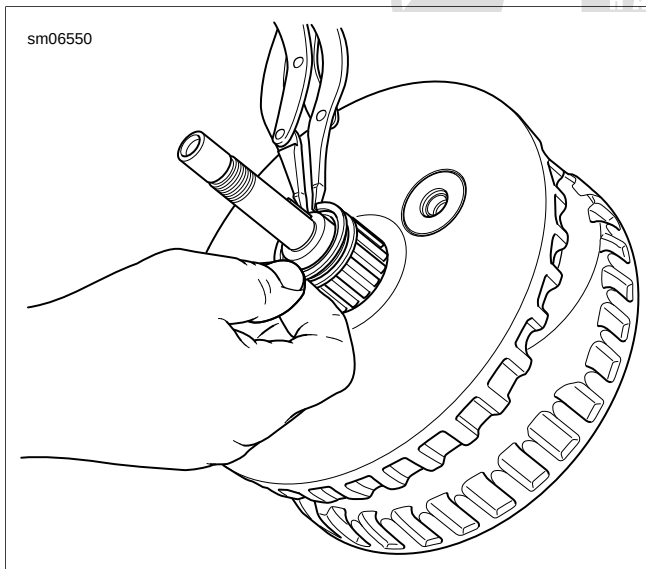

Figure 3-146. Installing Pinion Shaft Bearing and Retaining Ring
- See Figure 3-146. Using TRANSMISSION SHAFT RETAINING RING PLIERS (Part No. J-5586-A), install **new** retaining ring in groove of pinion shaft bearing inner race. Make sure retaining ring is fully seated in groove.